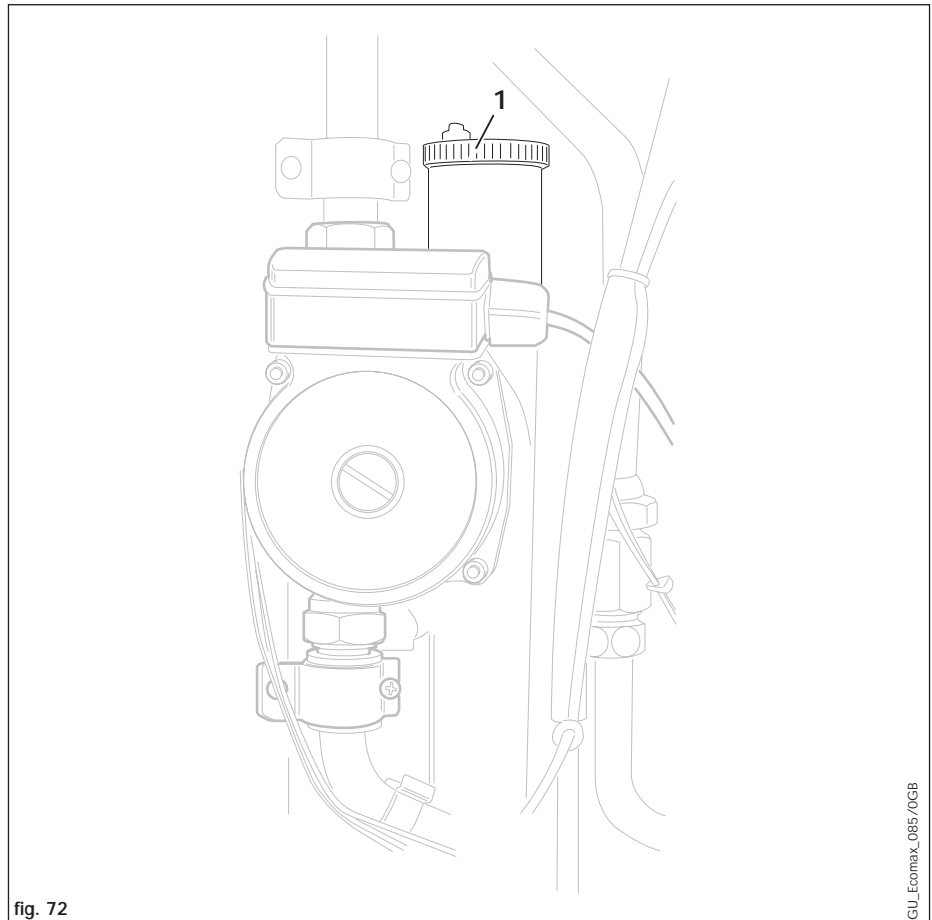

fig. 72
7.13 REPLACEMENT OF AUTOMATIC AIR RELEASE (FIG. 72)